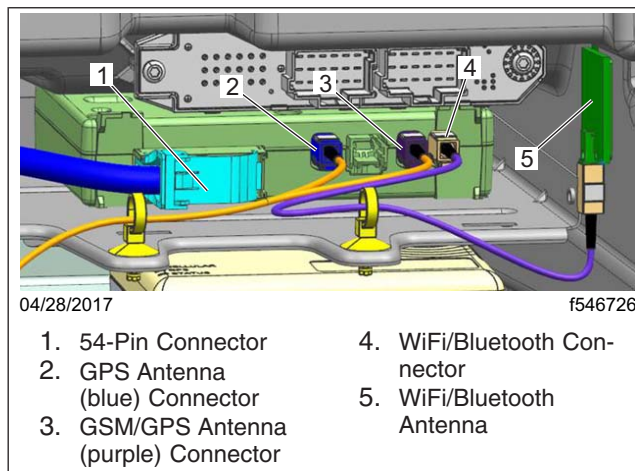

Fig. 1, Common Telematics Platform ECU
- 3.3 Disconnect the connectors from the CTP ECU. See Fig. 1.
- 20.1 Inspect that the area is clean where WiFi antenna will be installed. Clean as needed using Isopropyl alcohol. See Fig. 1.
- 20.3 Connect the antenna cable to the CTP as shown in Fig. 1. Secure antenna cable to the electronics bay bracket using a fir tree tie strap (p/n 23-13481-000).
3. Disconnect the GPS and GSM antenna connectors from the CTP. See Fig. 1.